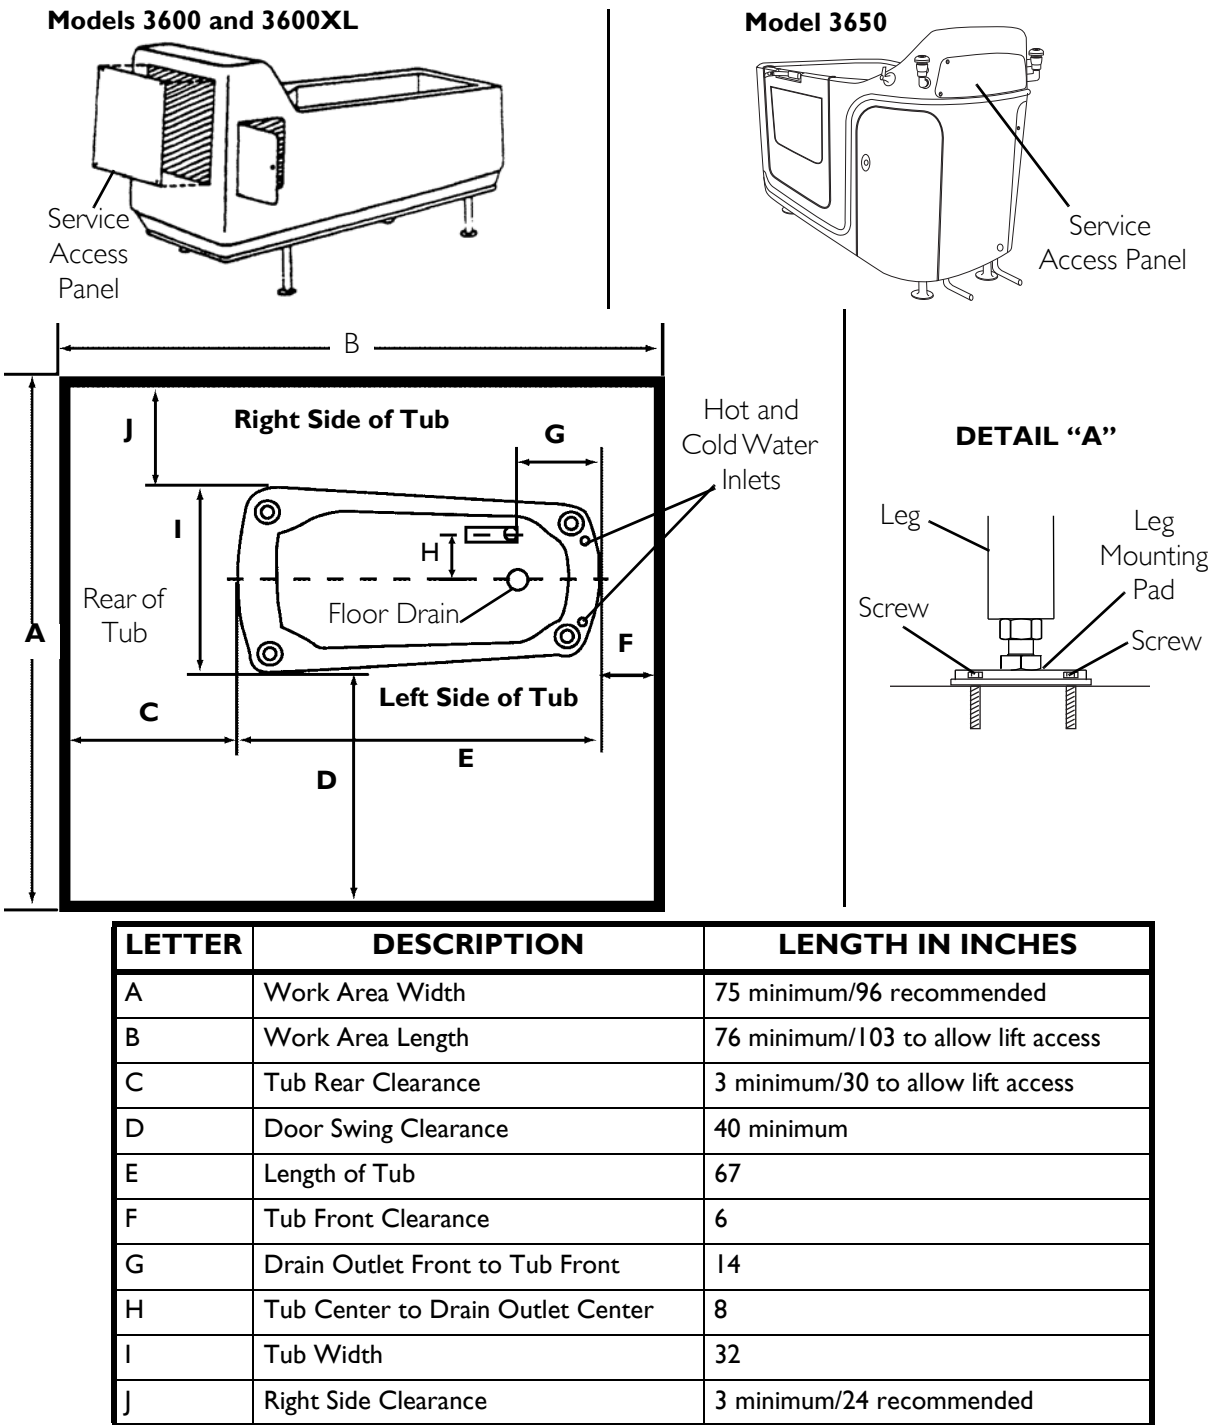

FIGURE 2.1 Preparing the Work Area
NOTE: For this procedure, refer to FIGURE 2.1 on page 15.
NOTE: Follow recommended floor plan shown in FIGURE 2.1 on page 15 when installing the tub.
4. Remove the four screws securing the service access panel (FIGURE 2.1).